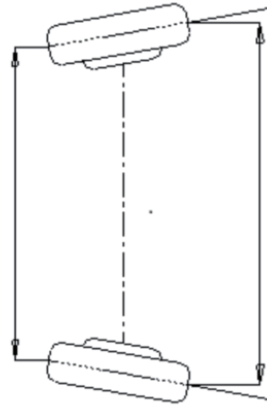

Figure 1.2
- The toe setting is the amount by which the front or rear wheels point inwards or outwards at the front of the wheel in relation to each other (see Fig.1.2). When the wheels point inwards they are said to toe-in. Toe-in figures are given a positive value. Conversely when the wheels point outwards they are toe-out and the figures are shown as a negative value.